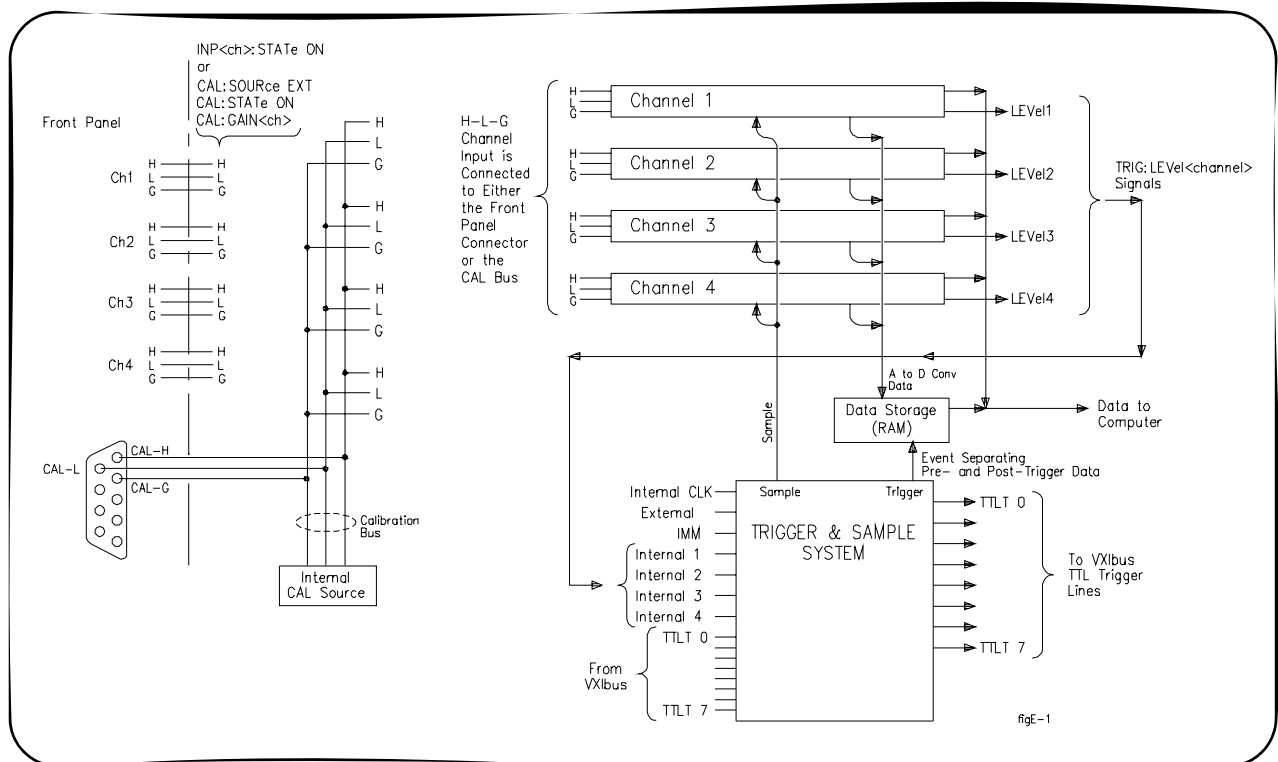

Figure E-1. VT1564A Gain Adjustment Voltmeter Connections
- 2 Connect a voltmeter to the Calibration Bus Output on the front panel D-connector (see Figure E-1). Set the voltmeter to the DCV function.